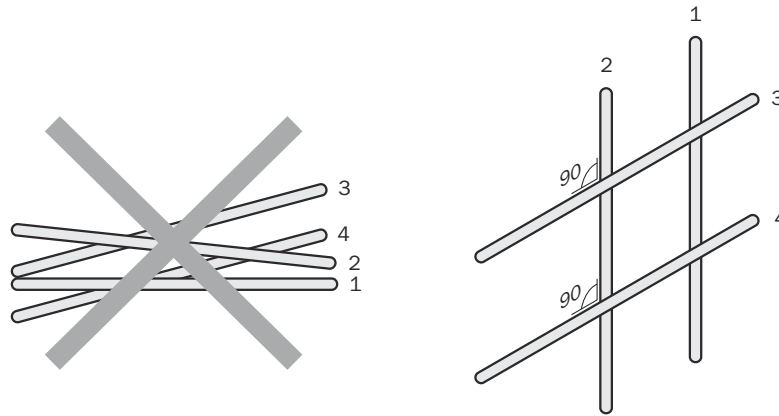

Figure 7: Cross cables at right angles
- ▶ Cables in groups 1, 2 and 3, 4 must be crossed at right angles (see figure 7).